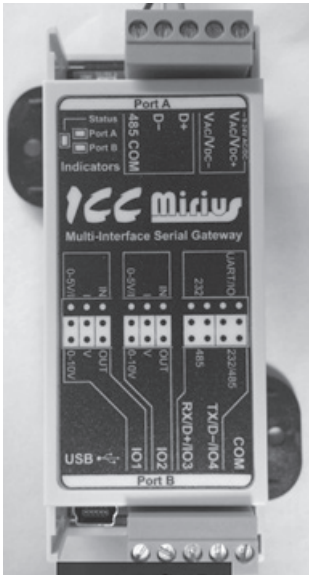

Figure 9. Mirius Unit with Communications Terminal
**Figure 9** shows the standard configuration of the module. Port A of the module has connections for 9 VDC power and serial communications for EMS/BMS (BACnet or Modbus). Port B has connections for the communication (breakout) cable for serial communications to the water heater/boiler.